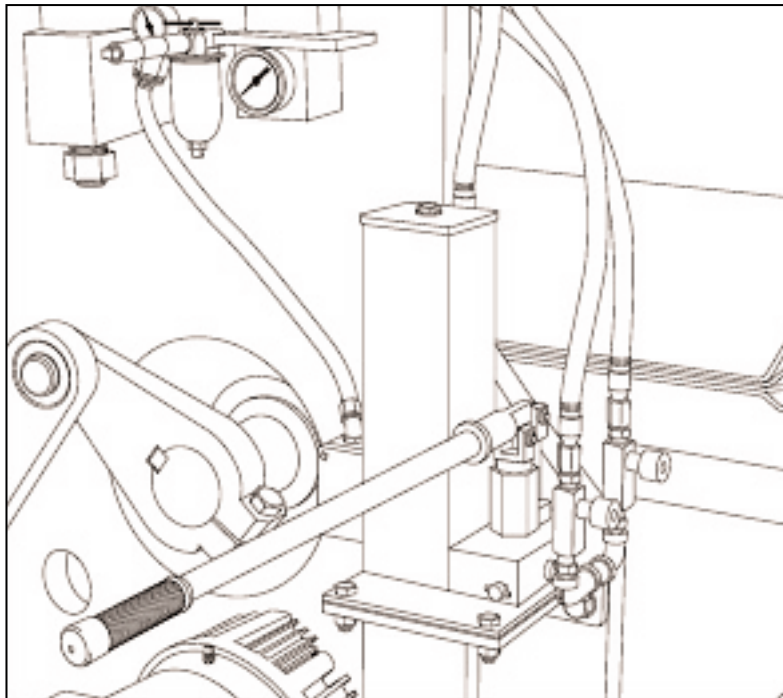

Figure 4.9 HYDRAULIC JACK SYSTEM.
- c. Raise mold throat frame up by using hydraulic jack system (figure 4.9) just high enough to allow all lower spacers to be removed at all four corners.